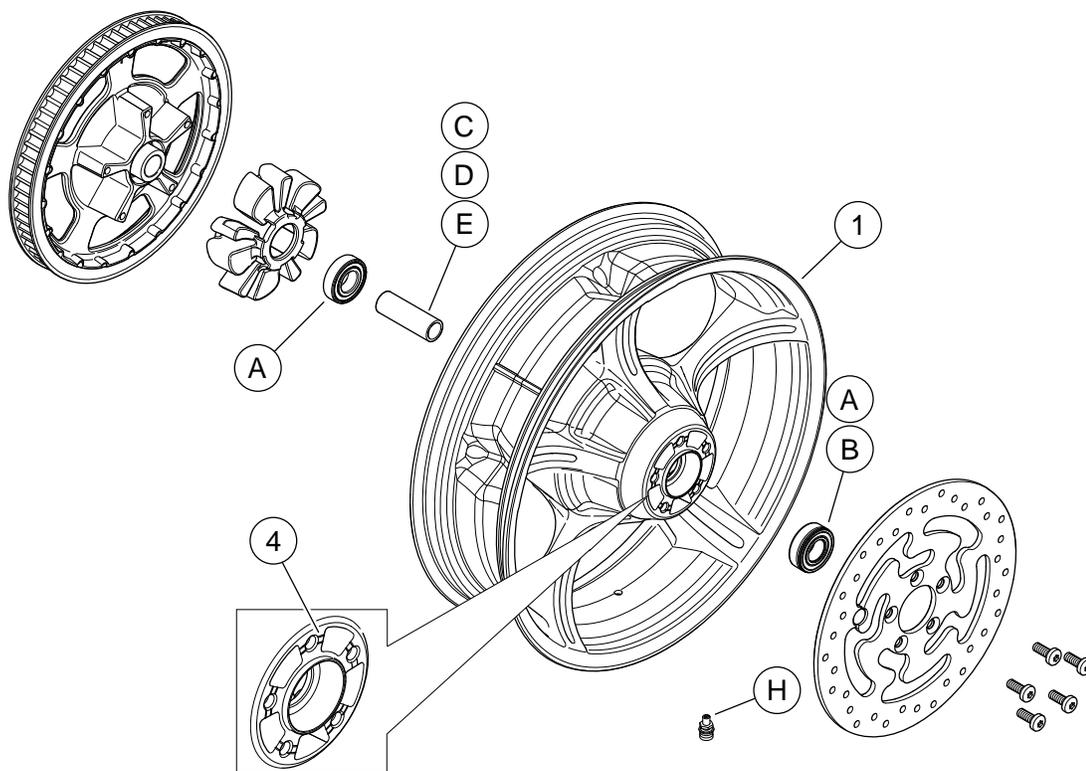

Figure 1. Service Parts: Anarchy Rear Wheels
These kits include the custom wheel only. See Figure 1 and Table 2.
2. See Figure 1. Install valve stem assembly (H) on wheel. Refer to TIRES in service manual.